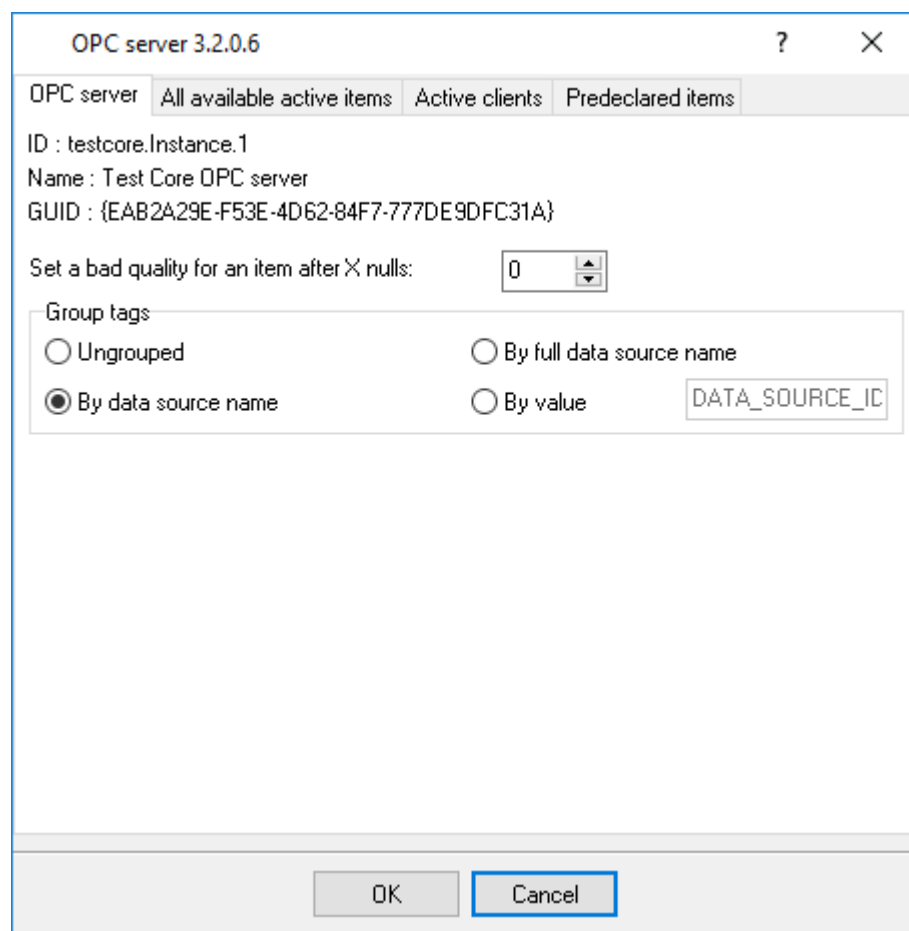

Fig. 23. OPC server parameters
- **Events handling** (fig. 23) - these plugins are used to handle events generated by the GPS Tracker Data Logger software. Once an event occurs (for example, "Data source is opened" or "Configuration changed"), the plugin creates a text message using the specified template, sends a notification, does some actions, executes a program or a script, etc. The form of the notification or actions depends on the plugin settings.
GPS Tracker Data Logger has an internal OPC server. It means that any OPC compatible client application can get data from GPS Tracker Data Logger without any additional software. To connect to the OPC server, you need the server ID and name (fig. 23). Before using the OPC server on your computer, you should download and install the OPC Core Components Redistributable from www.opcfoundation.org (registration required).